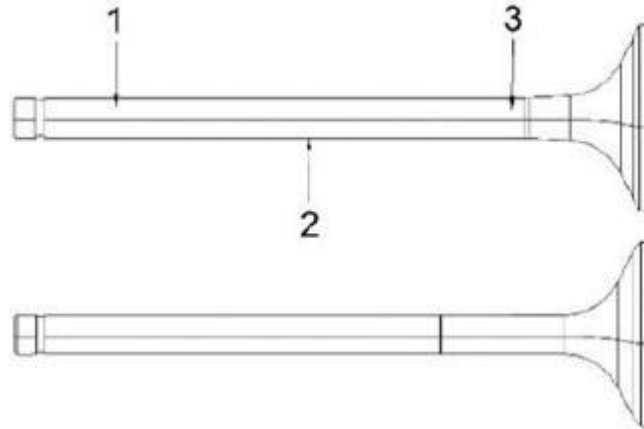

Figure 60. Valve Stem Diameter
3. Use a micrometer to measure the valve stem diameter. Measure the valve stem near the combustion end and near the opposite end (Figure 60). See *Intake / Exhaust Valve and Guide* chart for the service limit.